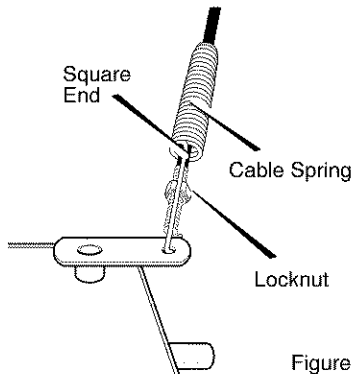

Figure 31
2. Push cable through spring to expose the threaded portion of the cable (see Figure 31).